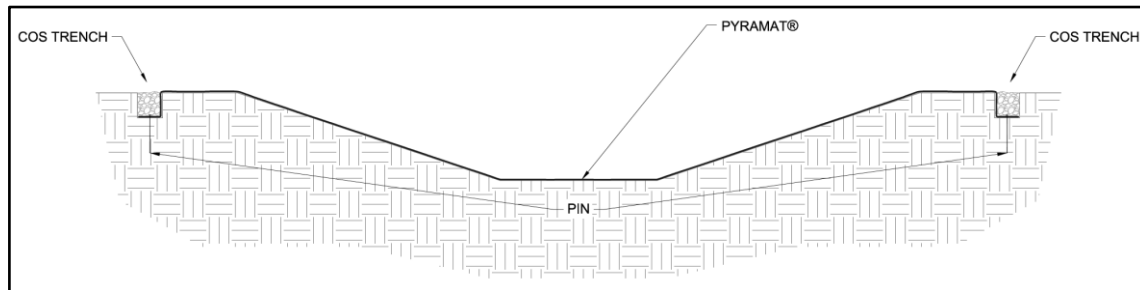

Figure 16: Top of Bank (COS) Trenches Complete
1. Starting with the downstream end of the site select one of the COS trenches to begin the *PYRAMAT LAYDOWN* process. To ensure proper anchoring of the overlapped areas the proceeding roll width must be laid out before the current roll width can be anchored with exception to the final roll width at the TC trench. For straight sections of a channel, PYRAMAT panel lengths should be long enough to construct both COS trenches while also covering the surface of the channel being armored. (Figure 16) Panel edges should rest perpendicular to the channel center line. For best results, panels of PYRAMAT should be continuous and free from seams or roll end overlaps that are parallel to the centerline of the channel. Panel edge overlapping should follow a pattern of placing each proceeding panel's edge overtop the previous panel edge, shingling the panels in the direction of the water flow.
11. Secure PYRAMAT with pins in the opposite COS trench. Suggested placement of pins for the opposite COS trench is along the bottom of the trench on 12 in (300 mm) centers (Figure 16).
12. Backfill and compact the opposite COS trench in the location of the first PYRAMAT panel only (Figure 16).